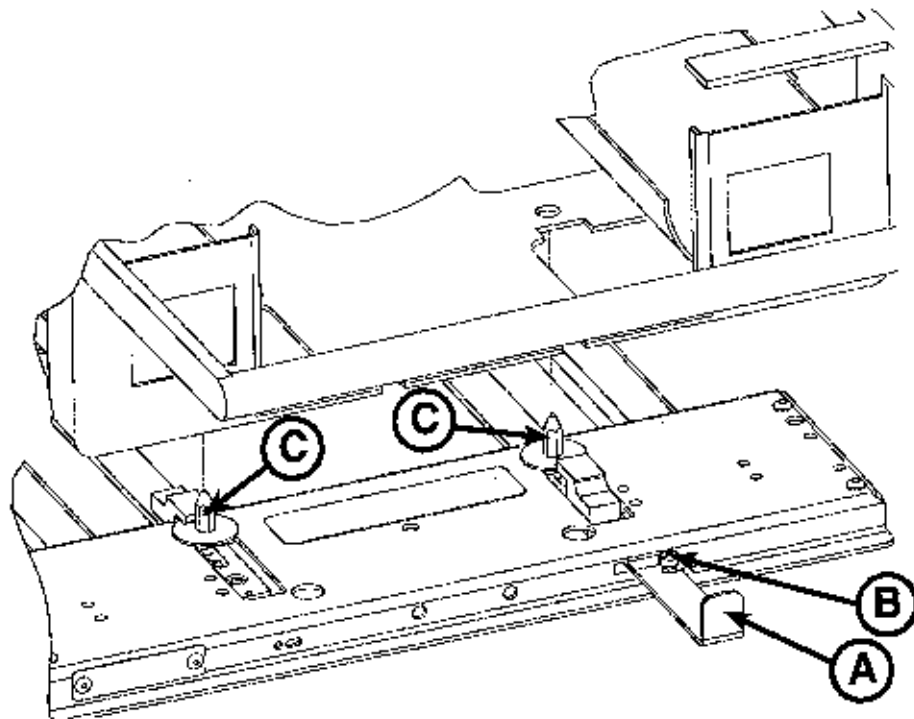

Figure 38: Drager® Incubator
1. Pull the red latch handle (A) on the adaptor and move it to the right until the slot in the handle engages with the shoulder bolt (B) on the adaptor as shown in Figure 38.
2. Place the incubator on the adaptor. Align the holes in the incubator with the four pins (C) on the adaptor (only two of the four pins are shown).